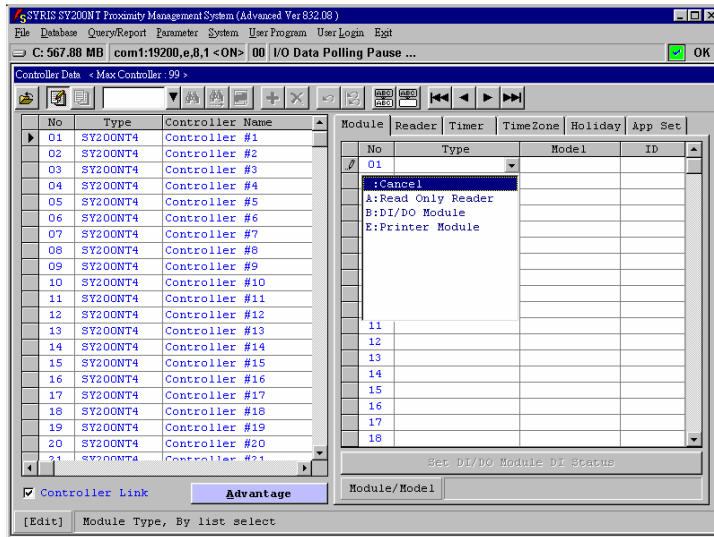

Fig.3-3 Module Type Select
2. Click "Type" column and drop down button to Select A, B or E module type, Fig.3-3.